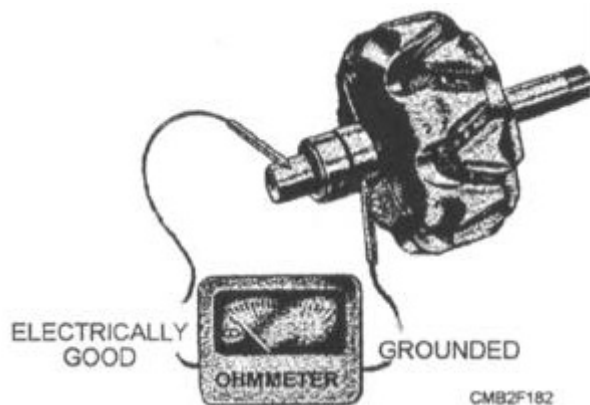

Figure 2-29.—Testing rotor for grounds.
- To check for grounds, connect a test lamp or ohmmeter from one of the slip rings to the rotor shaft (fig. 2-29). A low ohmmeter reading or the